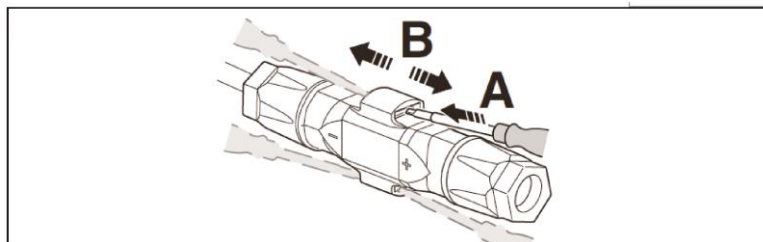

Figure 5-13
- 1) Insert the screwdriver into one of the four openings (Figure 5-13, A).
- 2) Leave the screwdriver in the opening. Pull the two connectors apart (Figure 5-13, B).